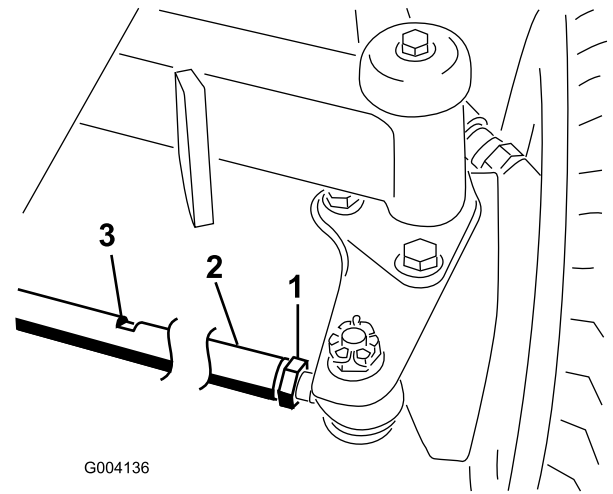

Figure 91
2. Loosen the jam nut on each end of the tie rod (Figure 91).